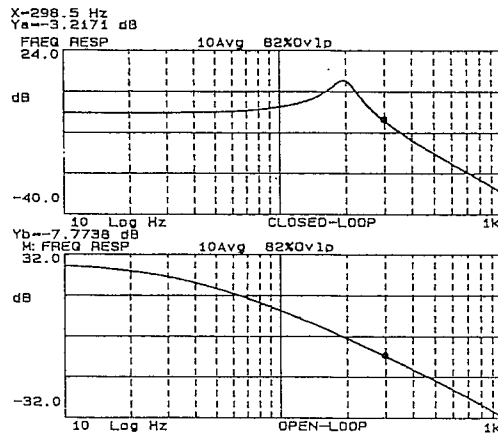

Figure 9-10 Calculating Open-Loop Response
$T/1 - T$  calculates open-loop response from a measured closed-loop frequency response curve, as the example in figure 9-10 shows. To yield a valid result, the measured response (T) must be the active trace.